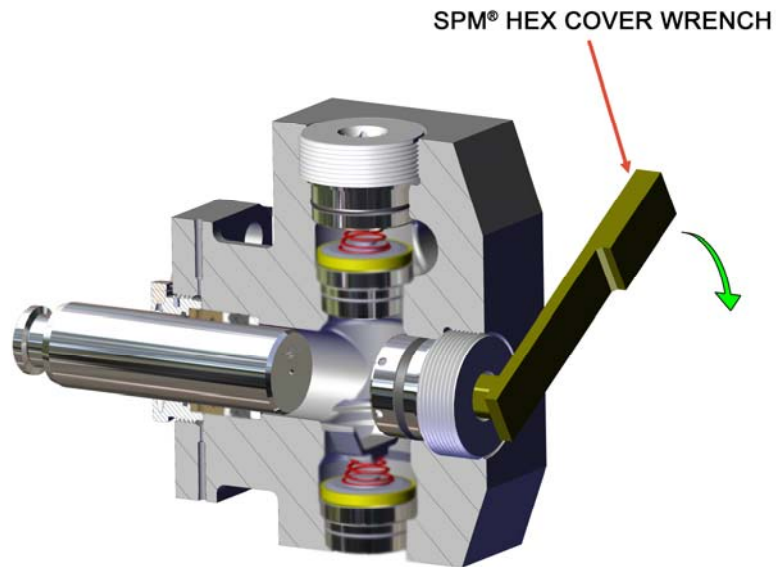

Figure 8
5. Using the SPM[®] hex cover wrench and 6 pound hammer, reinstall the discharge and suction cover retainer nuts per instructions in the “to remove valves and seats” section of this manual. (Typically two or three blows with the hammer will seat the cap and nut). (Fig. 8)